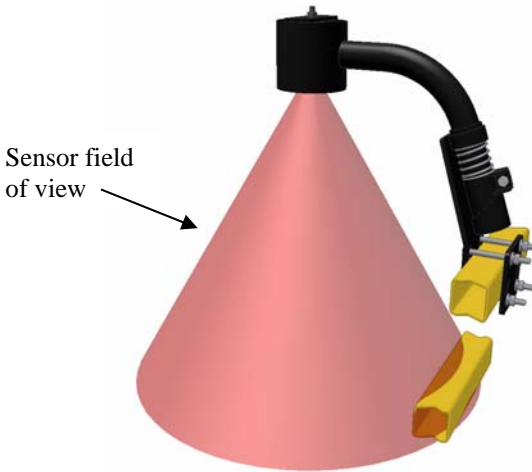

Figure 10 – Sensor Reading of the Boom
- When mounting to the top part of the boom (as shown in **Figure 10**), check that the sensor can not read off the bottom part of the boom. This is most common in **CROP** mode